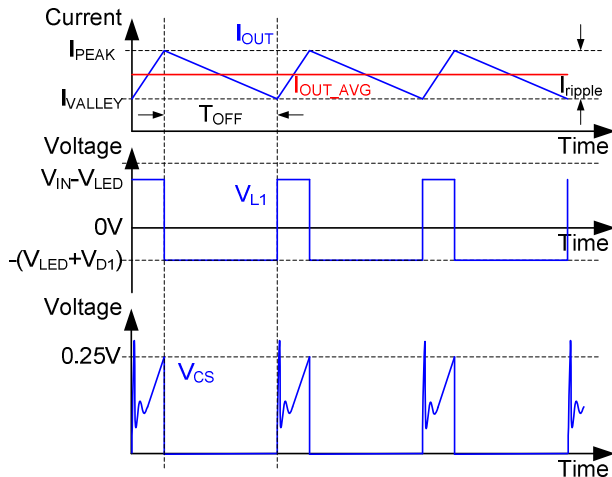

Figure-5 The waveforms of  $V_{CS}$ ,  $V_{L1}$  and  $I_{OUT}$  that shown in the Figure-1.
GR8210 operates with the peak current sensing and the constant off time. The peak current sensing and the line voltage compensation align the peaks of  $V_{CS}$  identically to determine the same  $I_{PEAK}$  that shown in the Figure-5. The  $I_{VALLEY}$  was determined by the  $T_{OFF}$ . GR8210 provides an off time setting function via connect a resistor from  $R_T$  to GND. A simple way is connect  $R_T$  to VCC directly to use the default off time that the value is approximately 9.3 $\mu$ s. The maximum and minimum  $R_T$  value suggestion 400k $\Omega$  and 50k $\Omega$  respectively.
The (3) and (4) were generated according to the Figure-5. They usually used to determine the inductance of the power inductor.
Where, the  $I_{OUT}$  is output current that user defined, the  $K$ . is the percentage of  $I_{OUT}$  to estimate the worse case and the value usually is range of 20%~40%. Beside, the maximum rate current and saturation current of the inductor must greater than the  $I_{PEAK}$  that shown in the Figure-5.
Two specifications of freewheel diode must be considered, the maximum reverse voltage must be greater than maximum voltage across the diode. The average rectified current also must be greater than  $I_{PEAK}$  that shown in the Figure-5. The ultra fast diode is recommended to use as the freewheel diode.